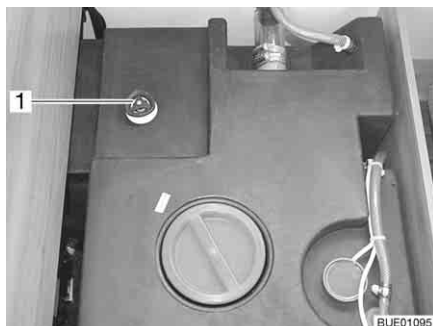

Fig. 227 Water tank with handle
- Turn the handle (Fig. 227,1) on the water tank in an anticlockwise direction as far as possible beyond the resistance to fully open the drainage opening.